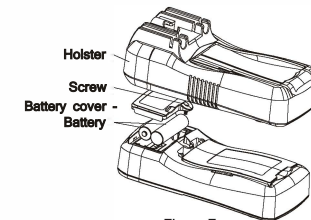

Figure 7
2. Battery Replacement (Figure 7)